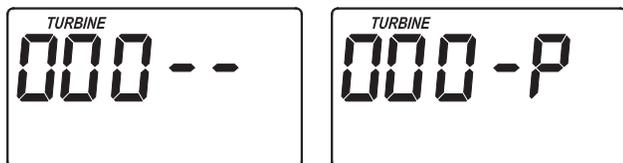

FIG. 22
1. Press and hold for 3 seconds the SELECT button, until one of the screens shown in Figure 22 is displayed. If the valve is in service, backwash or aspirate position (observe markings on the valve cam), the display should show "000 - -", meaning the position switch is open. When the valve is moving, the display should show "000 - P", meaning that the position switch is closed.